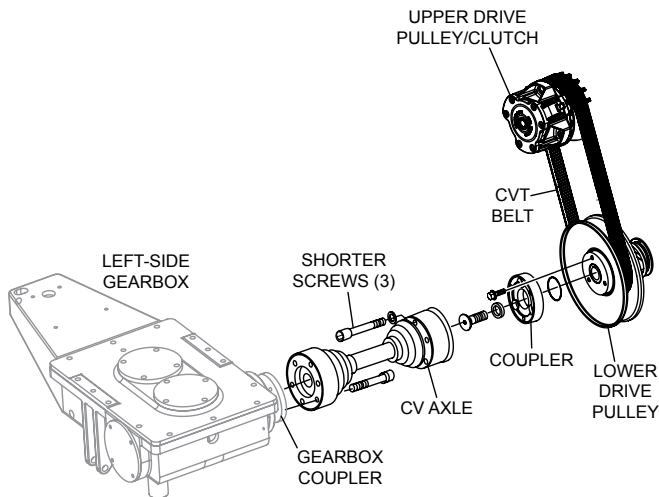

Figure 29. Remove Left-Side CV Axle
2. Disconnect the left-side CV Axle from the left-side gearbox and the lower drive pulley coupler. See Figure 29.
3. Reconnect left-side CV Axle Assembly to the left side gearbox and lower drive pulley coupler. See Figure 29.